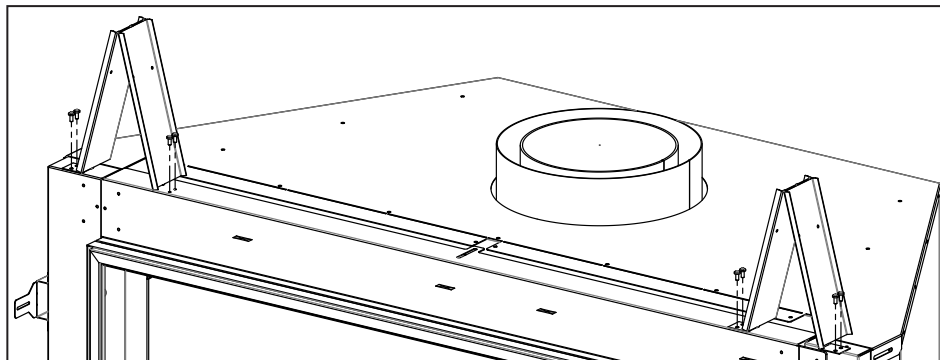

Figure 29: Top Standoff Install
2. Install top standoffs into position using supplied T-20 screws (see Figure 29).